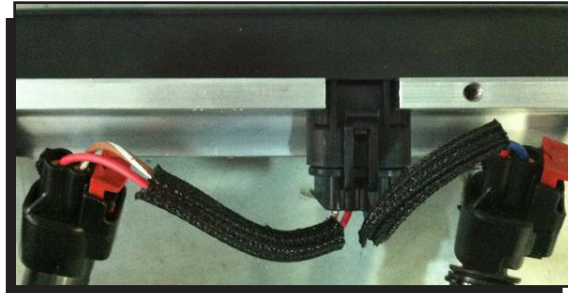

Figure 8 Injector Pigtail.
7. Connect the fuel injector pigtails into the injectors. The long wires connect to the injectors on each end of the fuel rail. The short wires connect to two inner injectors (Figure 8).